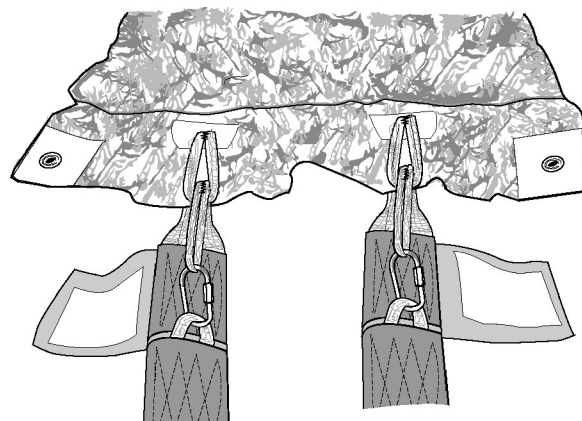

Figure 2. Rapide Links
k. Open cover securing Rapide link (Figure 2).